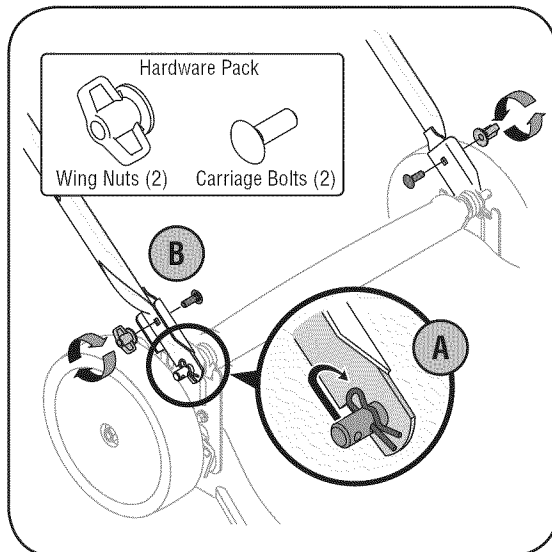

Figure 3-2: Secure handle to handle mounting brackets.
- a. Remove the hairpin clip from the pivot rod. Using a pair of pliers, insert hairpin clip into the other hole on the rod. Repeat on other side. See Figure 3-2.